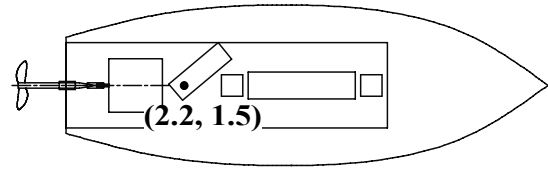

FIG. 16
Step 7. For the first point on axis, move the cursor to the left end of the switch, coordinates (2.2, 1.5), **Fig. 16**, and click.